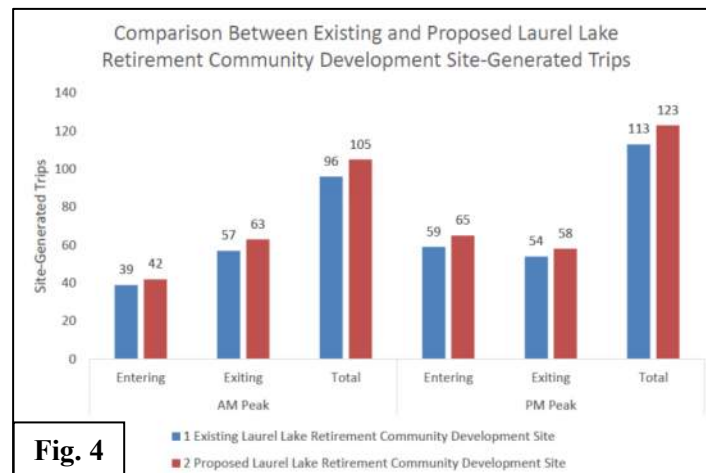

Fig. 4
- The number of anticipated vehicle trips would be low per the following chart (See Figure 4).